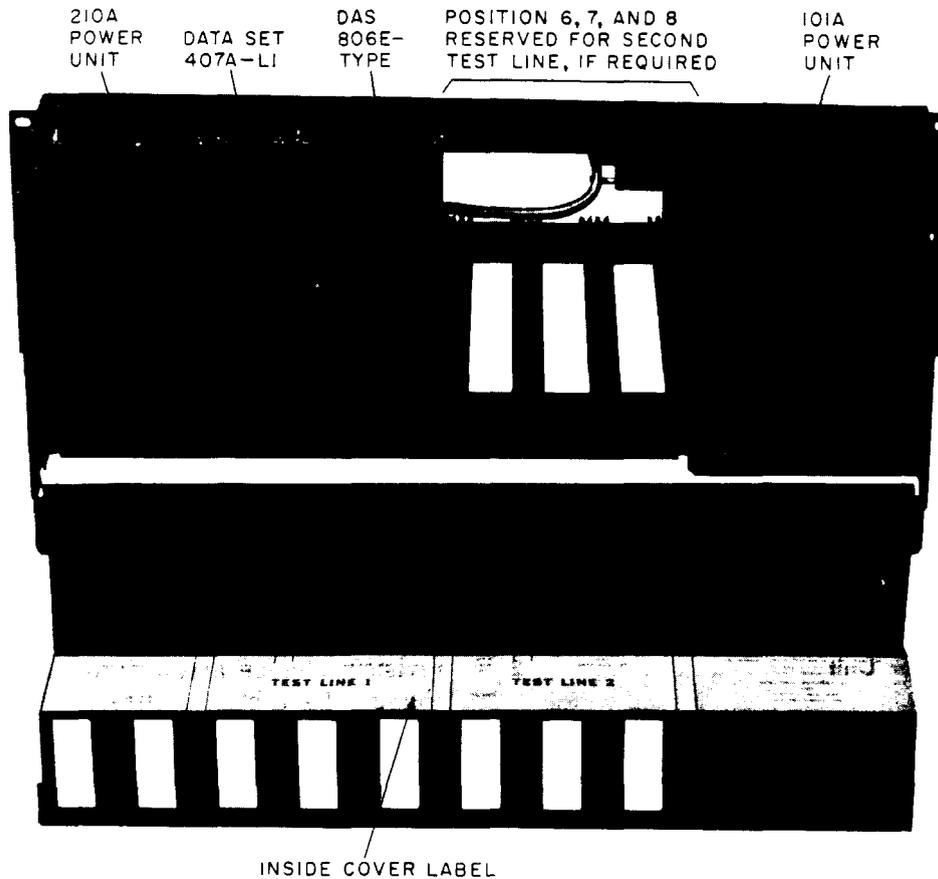

Fig. 1— 1A TTLS—One Test Line Installed
**1.01** This section covers the physical and functional descriptions of the 1A TRANSACTION telephone test line station (1A TTLS) shown in Fig. 1.